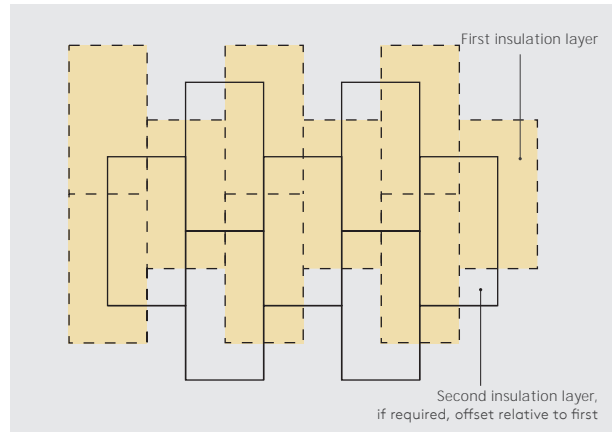

Figure 2 - Offsetting of multiple insulation layers
- If two layers of insulation are required, they should be horizontally offset relative to each other so that, as far as possible, the board joints in the two adjacent layers do not coincide with each other (see Figure 2).